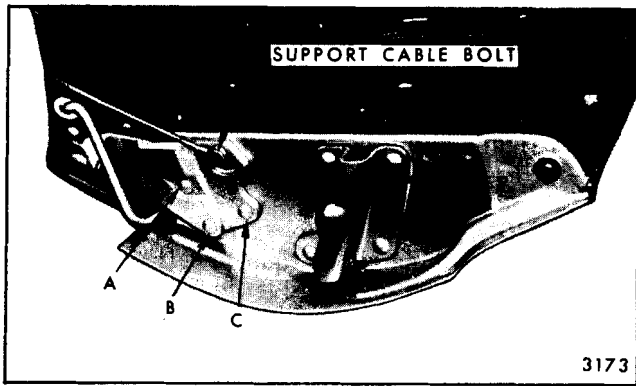

Fig. 9-51-Dual Acting Tail Gate Left Lower Hinge-Removal (Typical)
3. Lower tail gate and support in a full-open position. Remove support cable to left lower hinge to gate nut (Figure 9-51).
NOTE: Bolt "A", Figure 9-51, fits into a tapping plate. Bolts "B" and "C", Figure 9-51 are pressed into the hinge assembly and retained to the tail gate by nuts. The pressed bolts are removed with the hinge assembly - not separately.